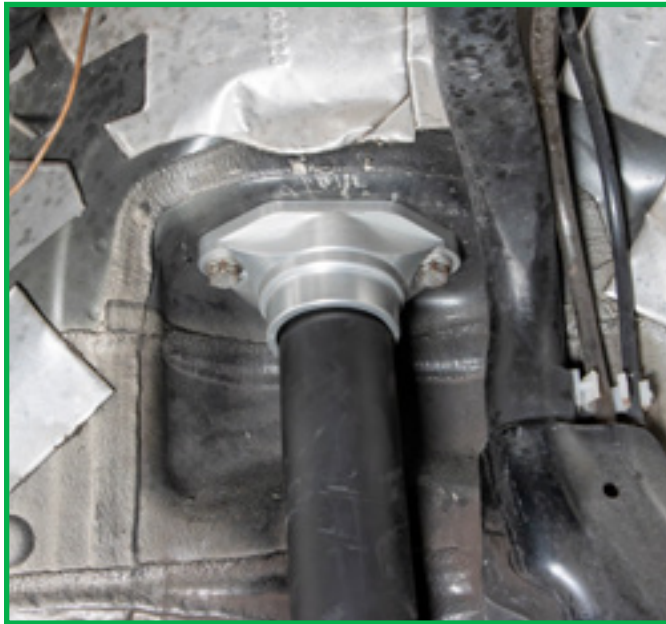

FIGURE 24
5. Tighten the two (2) upper mount bolts according the manufacturer's specifications. (Figure 24)